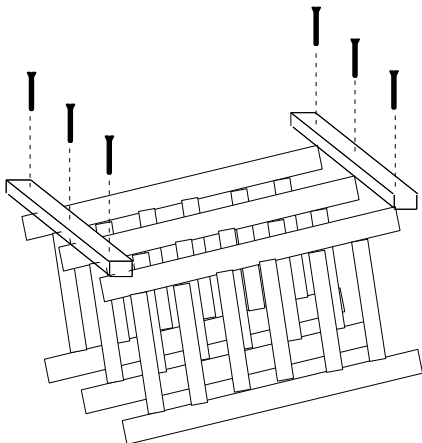

figure 2
3. Align 2 notched legs face down on the edges of the shelves. Each leg is universal. Simply line up the notches and place the outside edges flush with each shelf. Drill a 1/2" pilot hole through the pre-drilled holes and into the shelf edge. Attach each leg by driving screws carefully flush with the front of the leg. (see figure 2)